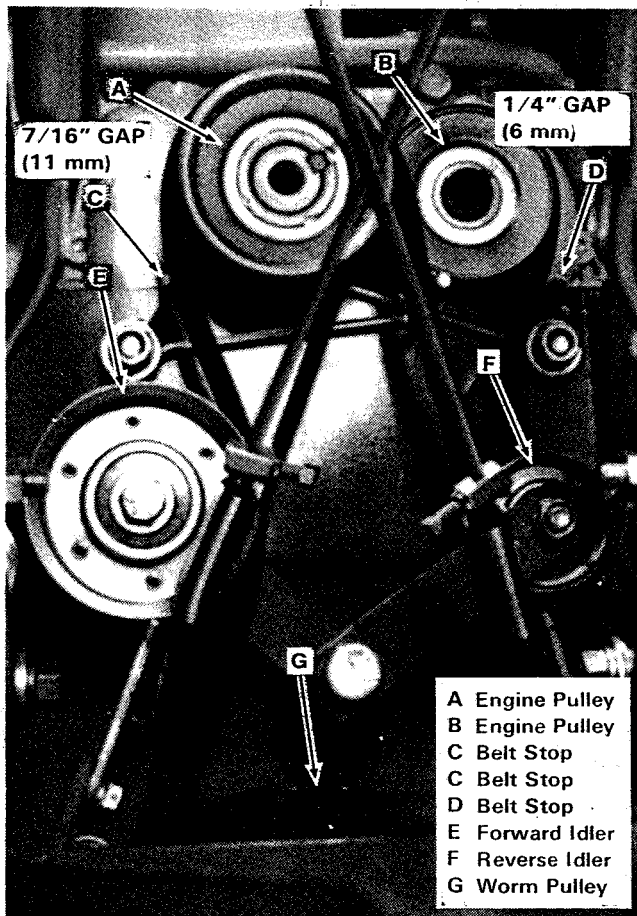

Figure 16. Belt Stop Adjustments
All of the belt stops except two (items C and D, figure 16) should be adjusted for a 1/16 inch (1.5 mm) clearance from the belts when the clutch levers are engaged (belts tight). Belt stop C, however, should be adjusted for a 7/16 inch (11 mm) clearance when the forward clutch is engaged, and belt stop D should be adjusted for a 1/4 inch (6 mm) clearance when the reverse clutch is engaged.
2. With the other hand measure the gaps between the belt stops and both belts. With the exception of the two belt stops (items C and D, figure 16) mentioned earlier, all gaps should be 1/16 inch. Belt stop C should have a 7/16 inch gap, and belt stop D should have a 1/4 inch gap. Don't forget to check the belt stop behind the engine pulley and the two belt stops at the large worm drive pulley (item G).
1. The hub of the forward drive engine pulley (item A, figure 16) should be flush (even) with the end of the engine shaft.
2. The hub of the reverse drive engine pulley (item B, figure 16) should be $\frac{3}{16}$ inch (4.7 mm) inward from the end of the engine shaft.
3. The large worm drive pulley (item G, figure 16) should be positioned so its shaft is recessed $\frac{3}{16}$ inch (4.7 mm) from outer edge of pulley hub.